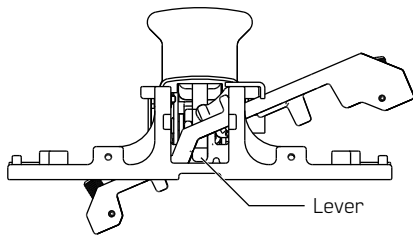

Figure 4 Rod carriage
- 3.1.4 Slide rod carriage end marked TOP toward lever. Rod carriage will begin to fall, as shown in Fig. 4.